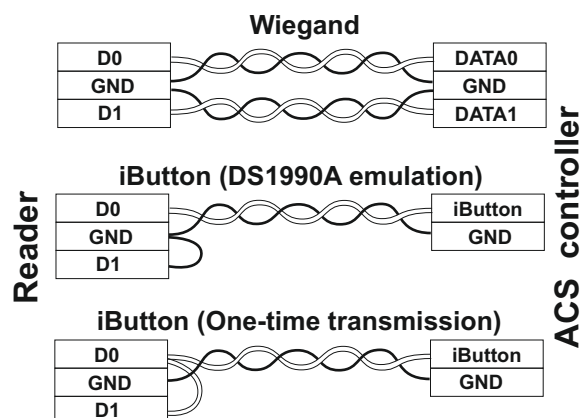

Figure 2. Choosing the transmission protocol.
- To select the protocol for data transfer to controller, connect **DATA0** and **DATA1** wires as per Figure 2.
- When connecting via Wiegand, first twisted pair connects to GND and DATA0, and the second to GND and DATA1 (See Figure 2).